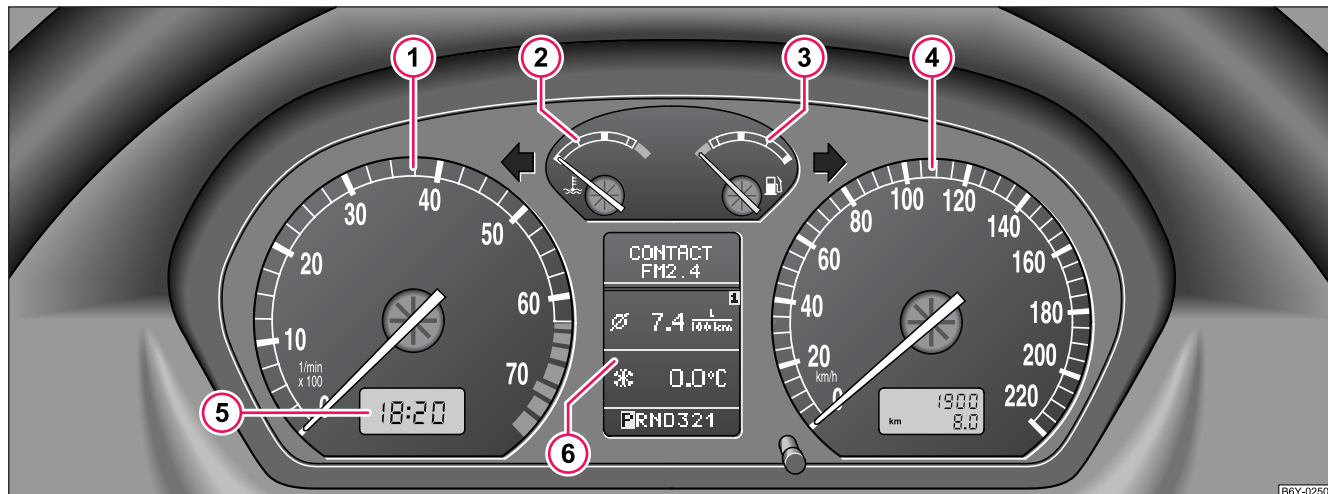

Fig. 3 Instrument cluster
The start of the red zone in the revolutions counter ① ⇒ page 12, fig. 3 indicates the maximum permissible engine speed for all gears for an engine which has been run in and operating at a normal temperature. You should shift into the next higher gear before this red zone is reached, or move the selector lever into position D if your car is fitted with an automatic gearbox.
The coolant temperature gauge ② ⇒ page 12, fig. 3 only operates when the ignition is switched on.
The fuel gauge ③ ⇒ page 12, fig. 3 only operates when the ignition is switched on.
A reset button is installed on the left below beside the speedometer for adjusting the clock ⇒ page 12, fig. 3.